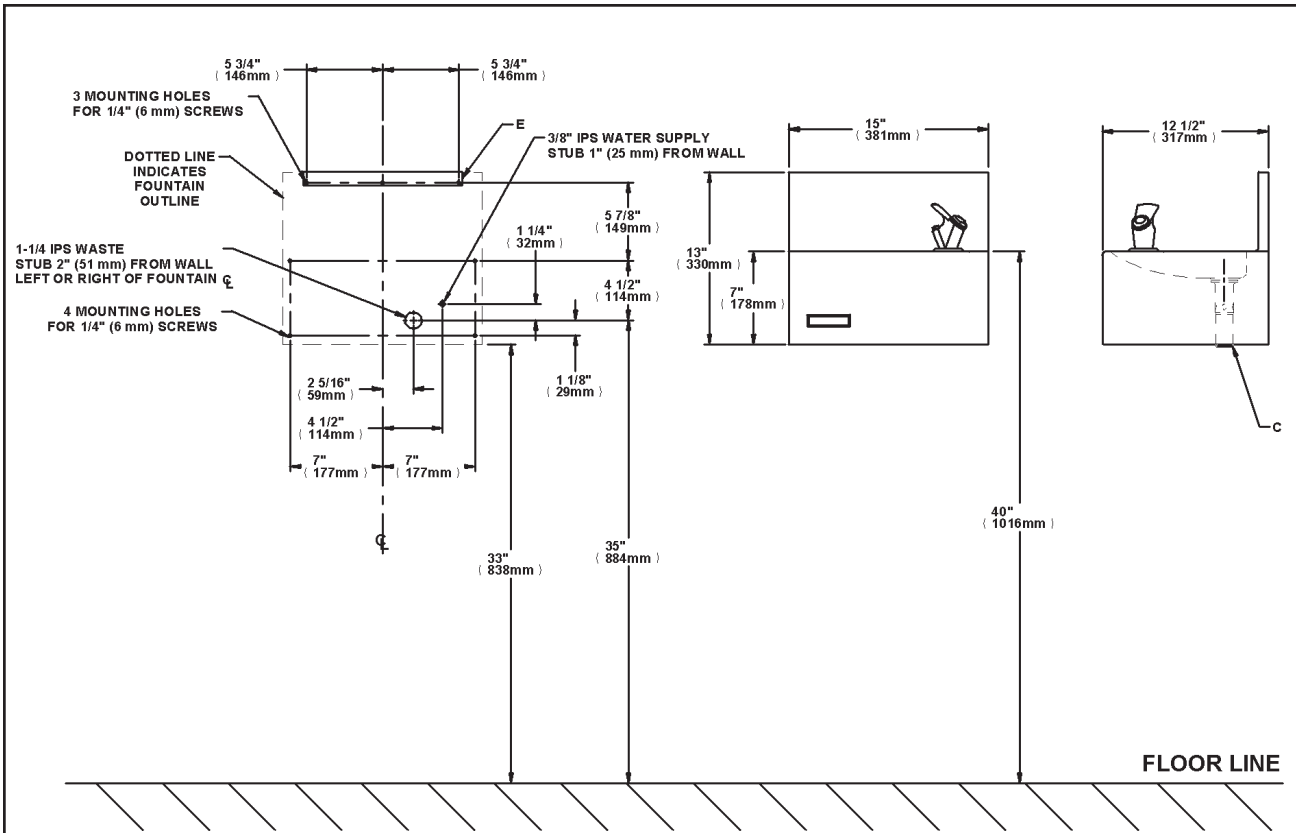

FIG. 1
- 1. Wall** should already be framed for the fountain using the positioning dimensions shown in Figure 1. Shown dimensions pertain to installation location (framing must support up to 150 lbs. weight).
- 2. Install** rough-in plumbing as shown in Figure 1. Waste line should extend a minimum of 2" (51mm) through the back panel. Connecting lines to be copper and thoroughly flushed to remove all foreign matter before connection to fountain. Run the supply water inlet line through the back panel. Install a service stop (not provided). Turn on supply water and flush thoroughly.
- 3. Secure** the fountain to the wall using (6) bolts and washers (not provided). Tighten securely.